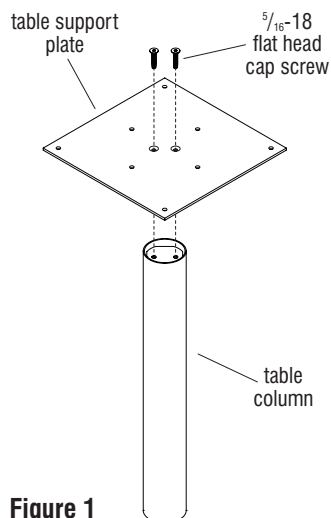

Figure 1
1. Carefully remove contents from packaging and reference Figures 1 & 2 to familiarize yourself with the table base parts.
2. Position the table support plate as illustrated over the table column. Make sure the tapered, counter-sunk holes in the plate are facing up for the screw heads to nest into. Attach the plate to the column using two $\frac{5}{16}$ -18 flat head cap-screws provided. Using a $\frac{3}{16}$ hex driver, tighten screws to between 20 and 25 foot-pounds of force (Figure 1).